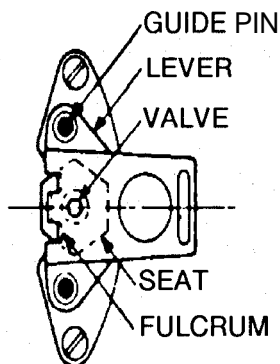

Figure 7
- H. Check for alignment of the guide pins. Hold the lever and valve against the valve seat with the valve contacting its seat and the two fulcrum points resting on the face of the seat. When the lever is held in this position, the guide pins should be central in the guide pin holes, as in Figure 7. When correctly aligned, the lever will move sideways the same distance to the right as to the left. Should the guide pins be out of line for any reason, they should be bent slightly so that they will be central in the guide pin holes as shown in Figure 7. For example, the guide pins in Figure 8 & 9 are not properly aligned and must be tapped lightly, with a hammer or similar tool, in the direction of the arrows. If the pins are too far apart or too close together, a similar procedure should be followed to position them centrally.